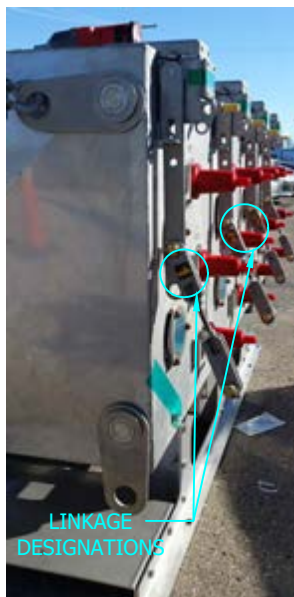

FIGURE 5A
E. **MOTOR OPERATORS AND LINKAGES ARE MATED TO THE SWITCH AND IDENTIFIED AT THE MANUFACTURING PLANT.** MOUNT MOTOR OPERATORS WITH CORRESPONDING WAYS AFTER THE CABLE HAS BEEN LANDED AND PRIOR TO MOUNTING THE ENCLOSURE. SEE FIGURE 5A AND 5B.